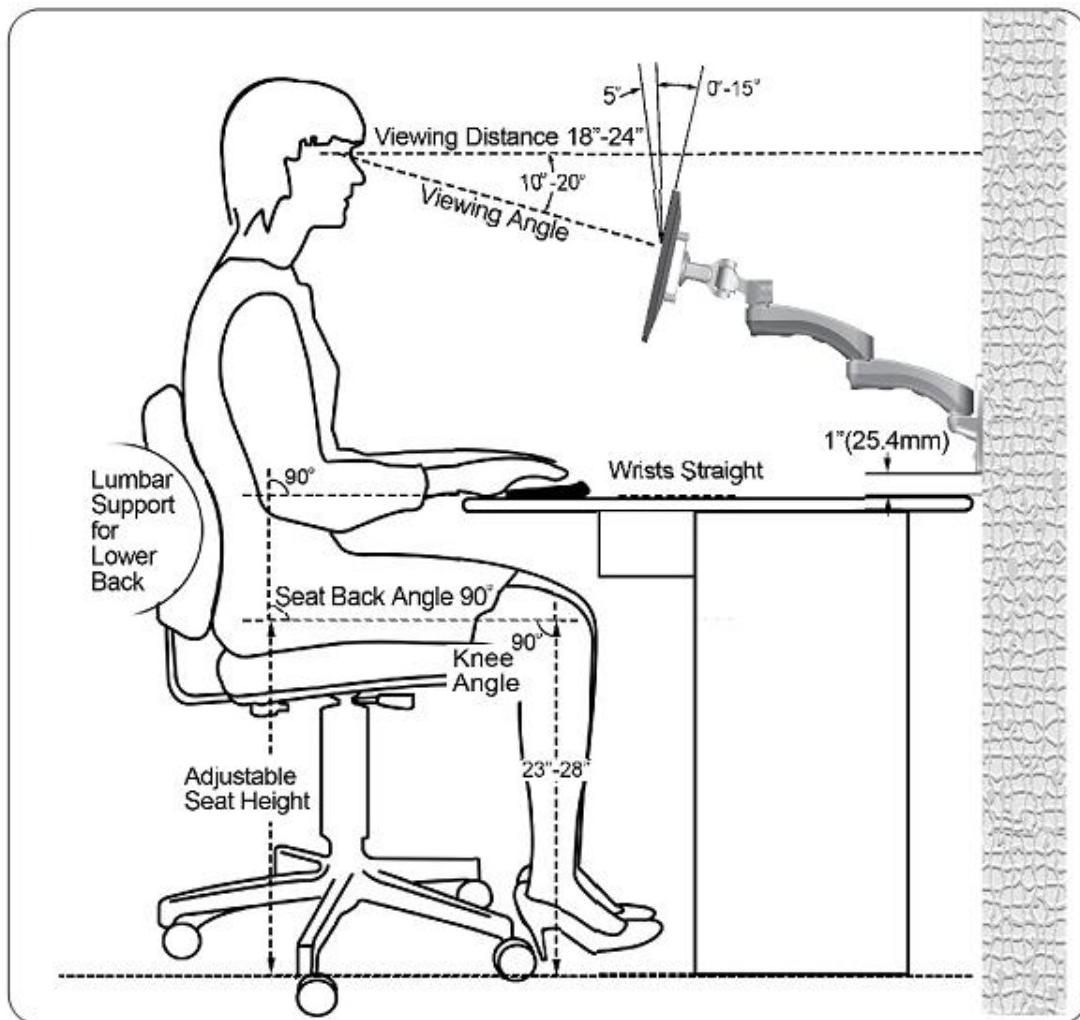

Figure 6-2
2. To assess the fit between a person and their work, ergonomists recommended that the optimal screen position should be slightly below eye level. Viewing angle should be approximately 10°-20° downward onto the screen's center. The lumbar (bottom five vertebrae in the spine) needs to be supported to decrease disc pressure. Sitting in a chair with a backrest that inclines backwards and has adequate lumbar support is critical to prevent excessive lower back pressures. The recommended ergonomic seating position to minimize pressures is to sit with the wrists straight at a 90° angle from the floor and seat and knee angle must also be at a 90° angle. Angular adjustment to reduce reflection on your monitor should range from 5° forward tilt to 15° backward tilt (**See Figure6-2**).